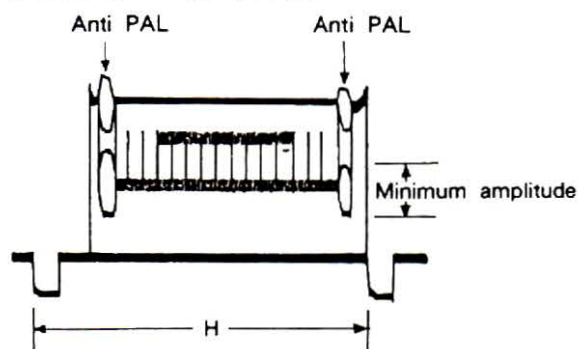

Fig. 8-38.
- 3) Turn RV912 and confirm that the flicker waveform in Fig. 8-38 is output (if it is not, confirm the sensor position and external light conditions, then try turning the BRIGHT control).